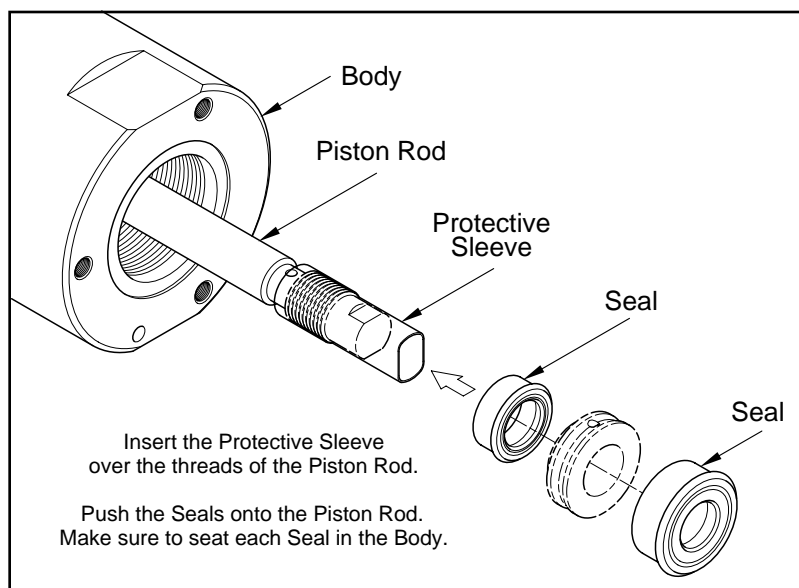

Figure 7 Use of Kit Sleeve to Install Seals onto the Piston Rod
35. Install and seat Seal (36) [heel end first] onto the Piston Rod and into the Body.
- Use the protective sleeve included in the kit. See **Figure 7**.
37. Install and seat Lantern Ring (37) [small diameter first] into the Body.
38. Install and seat Seal (38) [heel end first] onto the Piston Rod and into the Body.
39. Install Washer (39) into the Body.
42. Install and seat Seal (36) [heel end first] onto the Piston Rod and into the Ring.